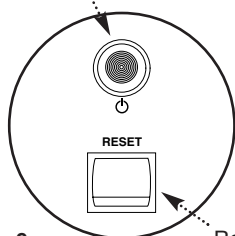

Fig. 9 Reset Switch
- To reset:** Press the reset switch to relight the boiler (Fig. 9).